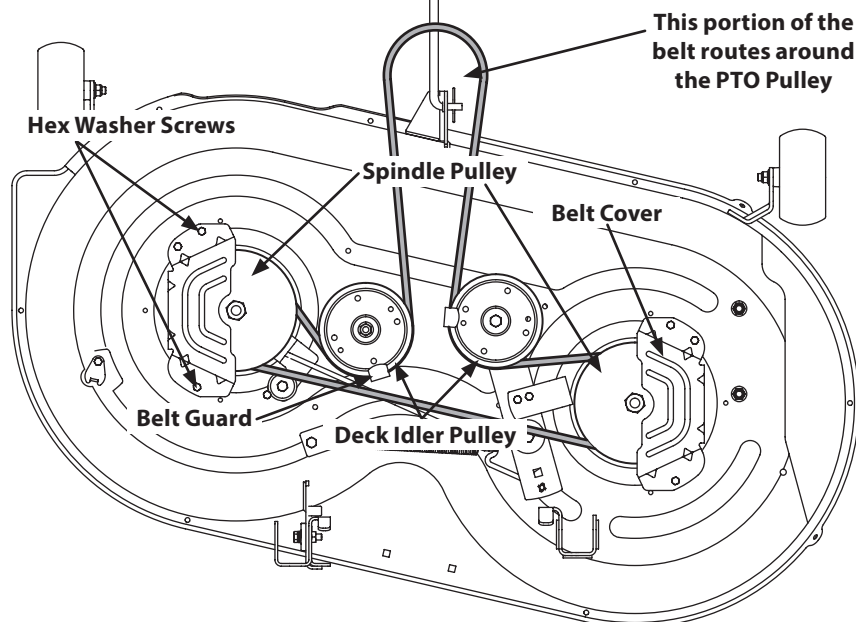

Figure 29
1. Remove the belt covers from the spindle pulleys by removing the hex screws that fasten the covers to the deck. See Figure 29.
3. Carefully remove the deck belt from around the two spindle pulleys and the two deck idler pulleys. See Figure 29.
4. To place the new belt, begin by routing the belt around the two outer spindle pulleys as shown in Figure 29.
5. Then route the belt around the two deck idler pulleys as shown in Figure 29.
8. Re-install the deck, making sure the belt remains routed around the pulleys as instructed. The complete belt routing is shown in Figure 29.